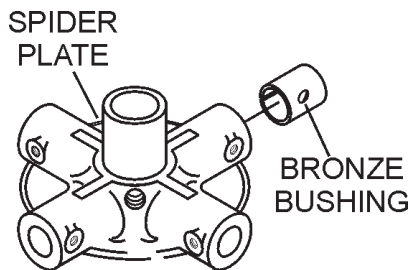

Figure 44. Bronze Bushings
- Examine the bronze trowel arm bushing insert (Figure 44), clean if necessary. Replace bushing if out of round or worn.